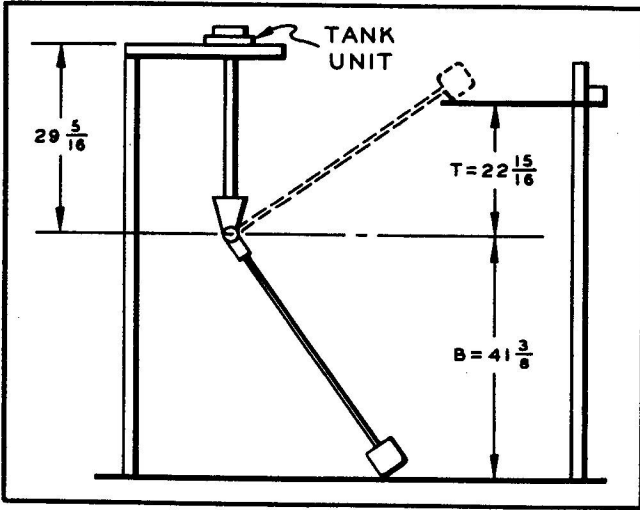

Figure 4-275. Set-Up Stand Dimensions for EA565P-991
ADJUSTING FLOAT ARM STOPS. See paragraphs 3-1 thru 3-6 and 3-8 thru 3-9. Use a set-up stand similar to that shown in figure 3-1. Adjust dimensions of stops to values shown in figure 4-275 or 4-276.
a. Install tank unit in set-up stand and make sure that stops are adjusted to values shown in figure 4-275 or 4-276.